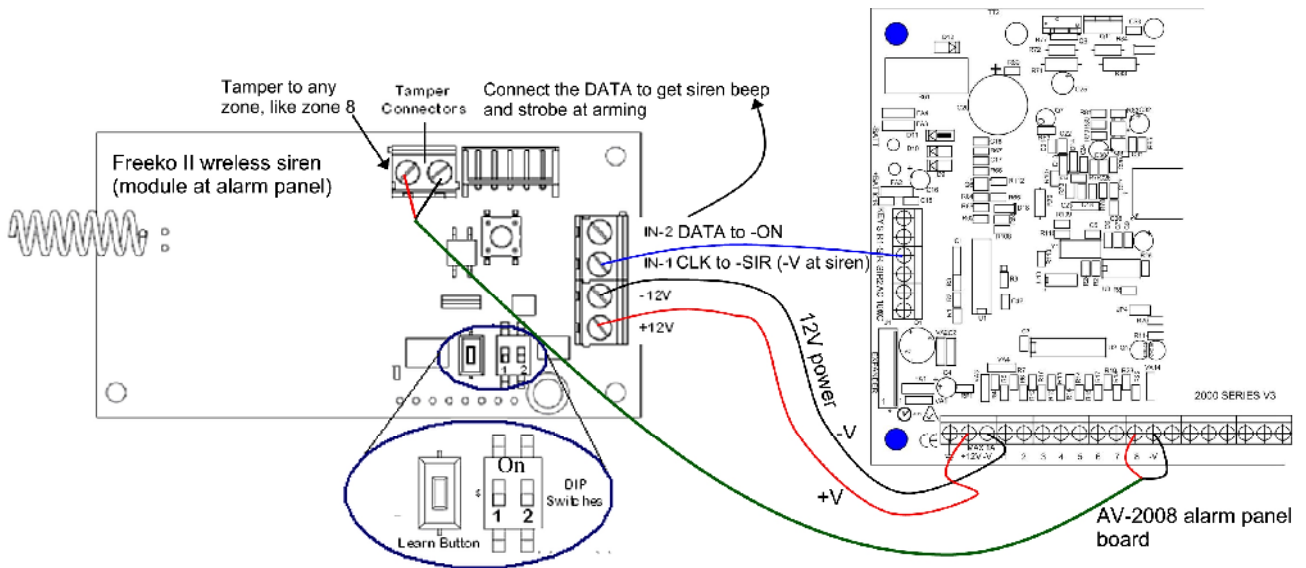

Figure 3: Unit Installing – Wired to Av-Gad alarm panel
8. Connect the Transceiver to Control Panel signals' per the table and figure 3 below.